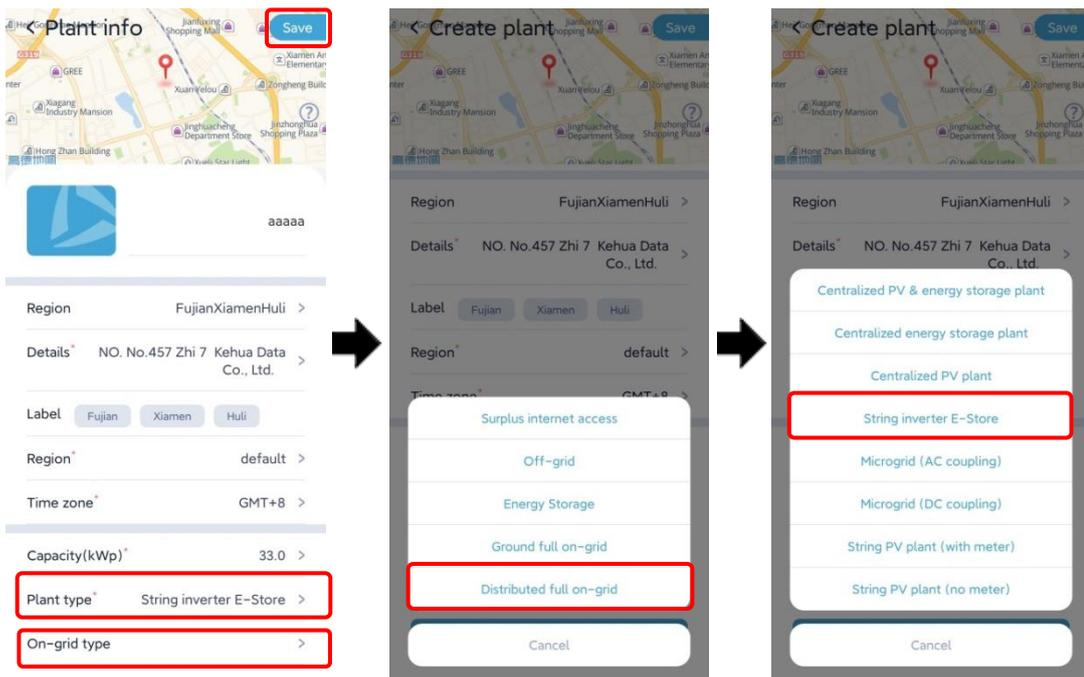

Figure4-5 Create your plant page
Step 6 After entering corresponding information, select **Save** button, as shown in Figure4-5.